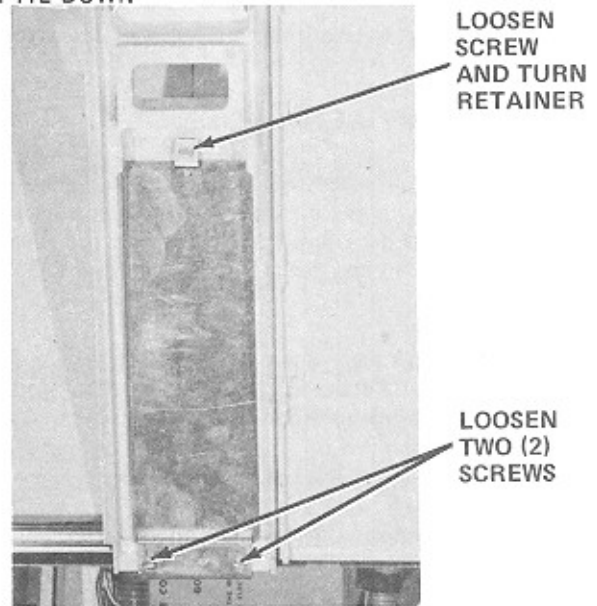

FIGURE 1-4. LICENSE CARD INSTALLATION
1. Loosen two screws holding bottom retainer as shown in figure 1-4.